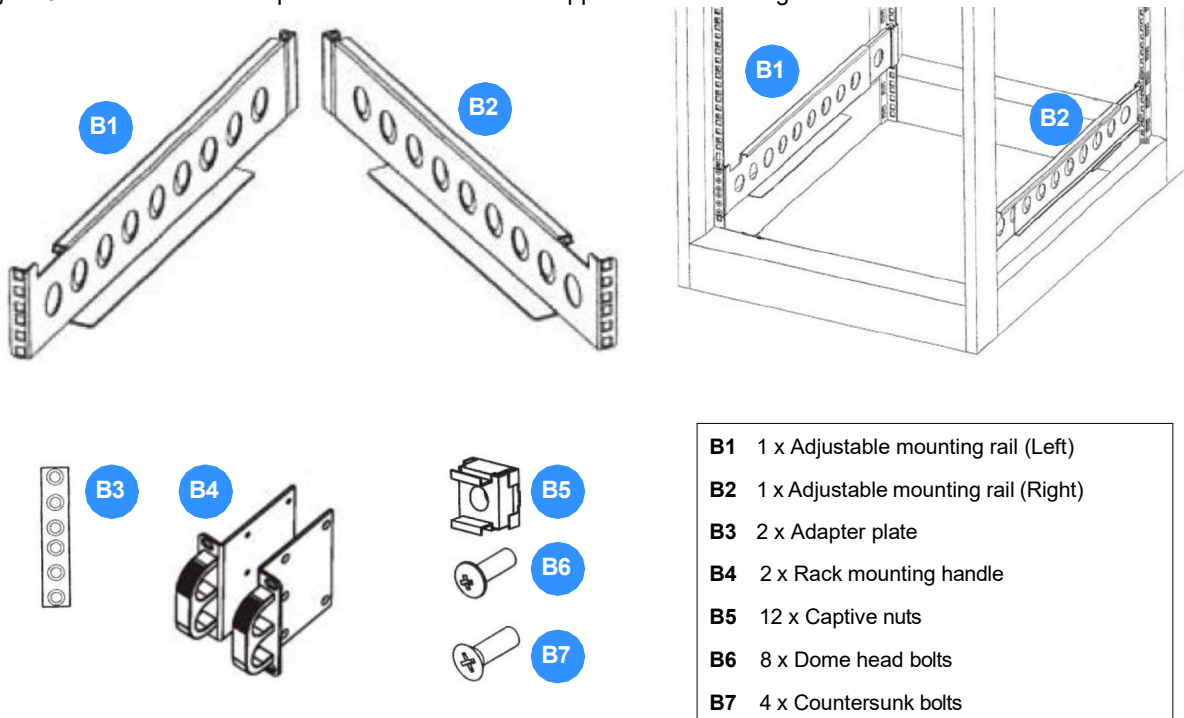

Figure 3.7 UPS Rack mounting kit
Figure 3.7 illustrates the components contained in the supplied rack-mounting rail kit.
The rails are left and right handed and must be installed with the lip facing the bottom of the rail, as shown in Figure 3.7.
1. Extend the mounting rail and hold in place (see Figure 3.7).